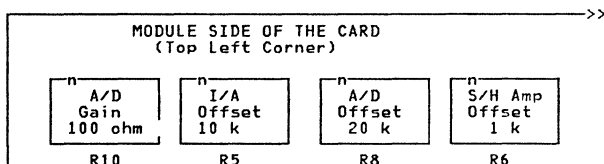

Figure 4. Trim pots for A/D calibration
10. Adjust the 1 k-ohm pot(see Figure 4) so the output reads zero.
12. Repeat the above step and adjust the 20 k-ohm pot(see Figure 4) until the digital output is 1000 0000 0001.